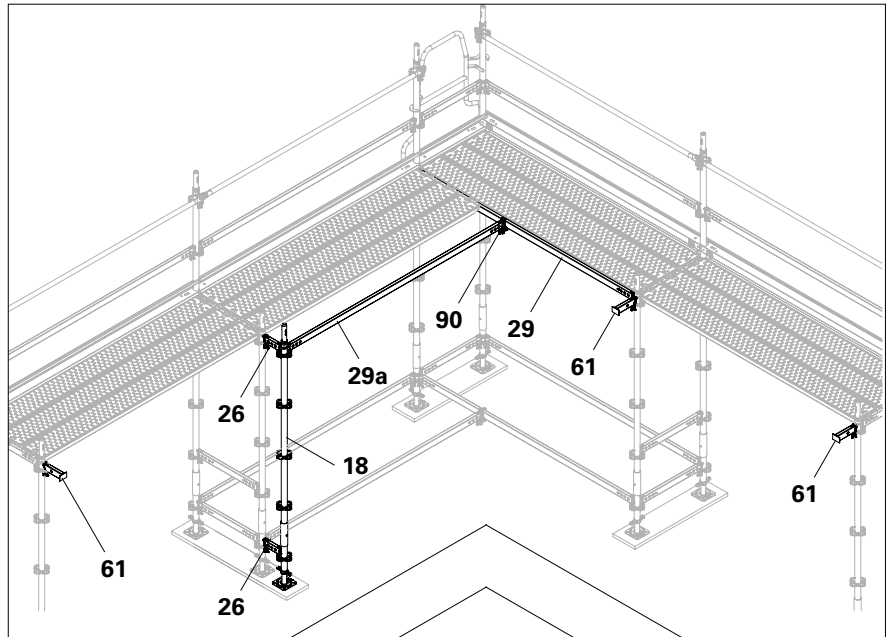

Fig. C1.05
2. Attach Supports UC 25 (**61**) to the rosette from the scaffold level below. Secure the wedges! Arrangement in accordance with Fig. C1.05.
4. Fit Horizontal Ledger UH-2 (**29a**) onto the Ledger-to-Ledger Coupler UHA-2 (**90**) and standard (**18**) in the adjacent scaffold bay. Secure the wedges. (Fig. C1.05)